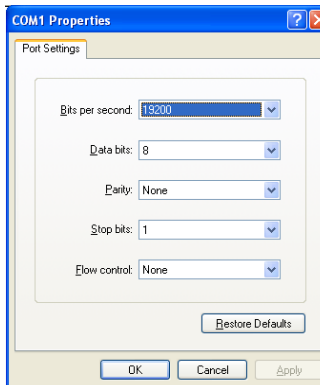

Figure 19 COM Settings
3. Set the following baud rate settings (Figure 19). When done, click on the Apply button to set these settings, and then click on the OK button.